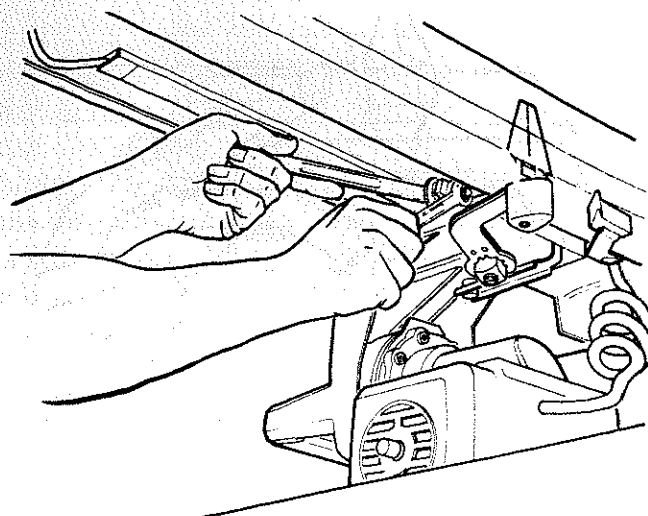

Fig. 127 - Location of Hex Nut
2. To adjust the bearing, use a 9/16 inch wrench to hold the bolt head while using a 1/2 inch wrench to loosen the hex nut. (Figure 127)